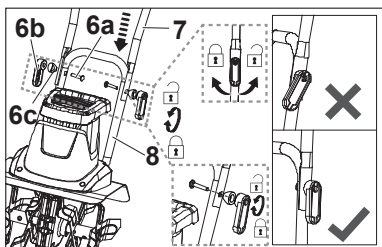

Fig. 2
3. Align the holes in the middle handle bar (7) with the holes in the lower handle bar (8). Secure the connection with the bolts (6a) and levers (6b) & washers (6c) (Fig. 2).